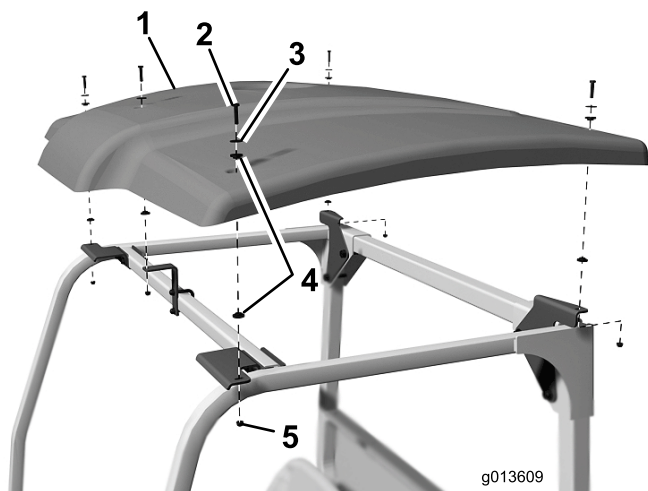

Figure 4
9. Position the canopy onto the ROPS aligning it's mounting holes with the holes in the brackets (Figure 4).
10. Loosely mount the canopy to the brackets with (5) 1/4 x 1-1/4 inch bolts, 7/8 inch washers and 1/4 inch nuts. Also, make sure a rubber bushing is positioned on the top side and under side of the canopy when installing each bolt (Figure 4).